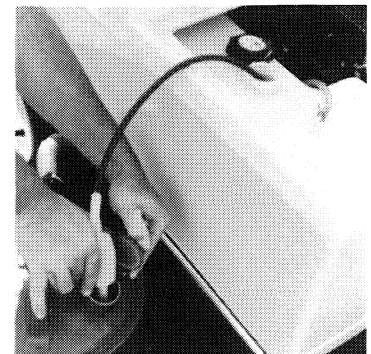

Figure 12
2. Using a siphon with a suction device (See Figure 12), drain all of the gas out of the tank into an approved gasoline container.